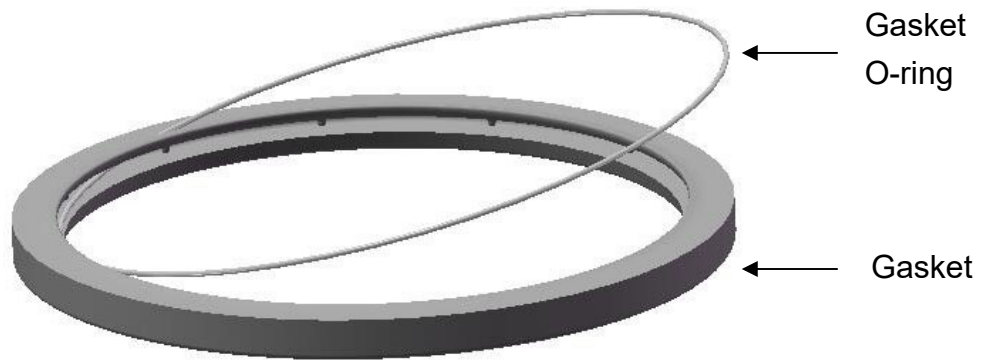

Figure 35
1. Remove the old gasket from the door, and then puff off the gasket o-ring from the gasket. Install the gasket o-ring to the new gasket as Figure 35.